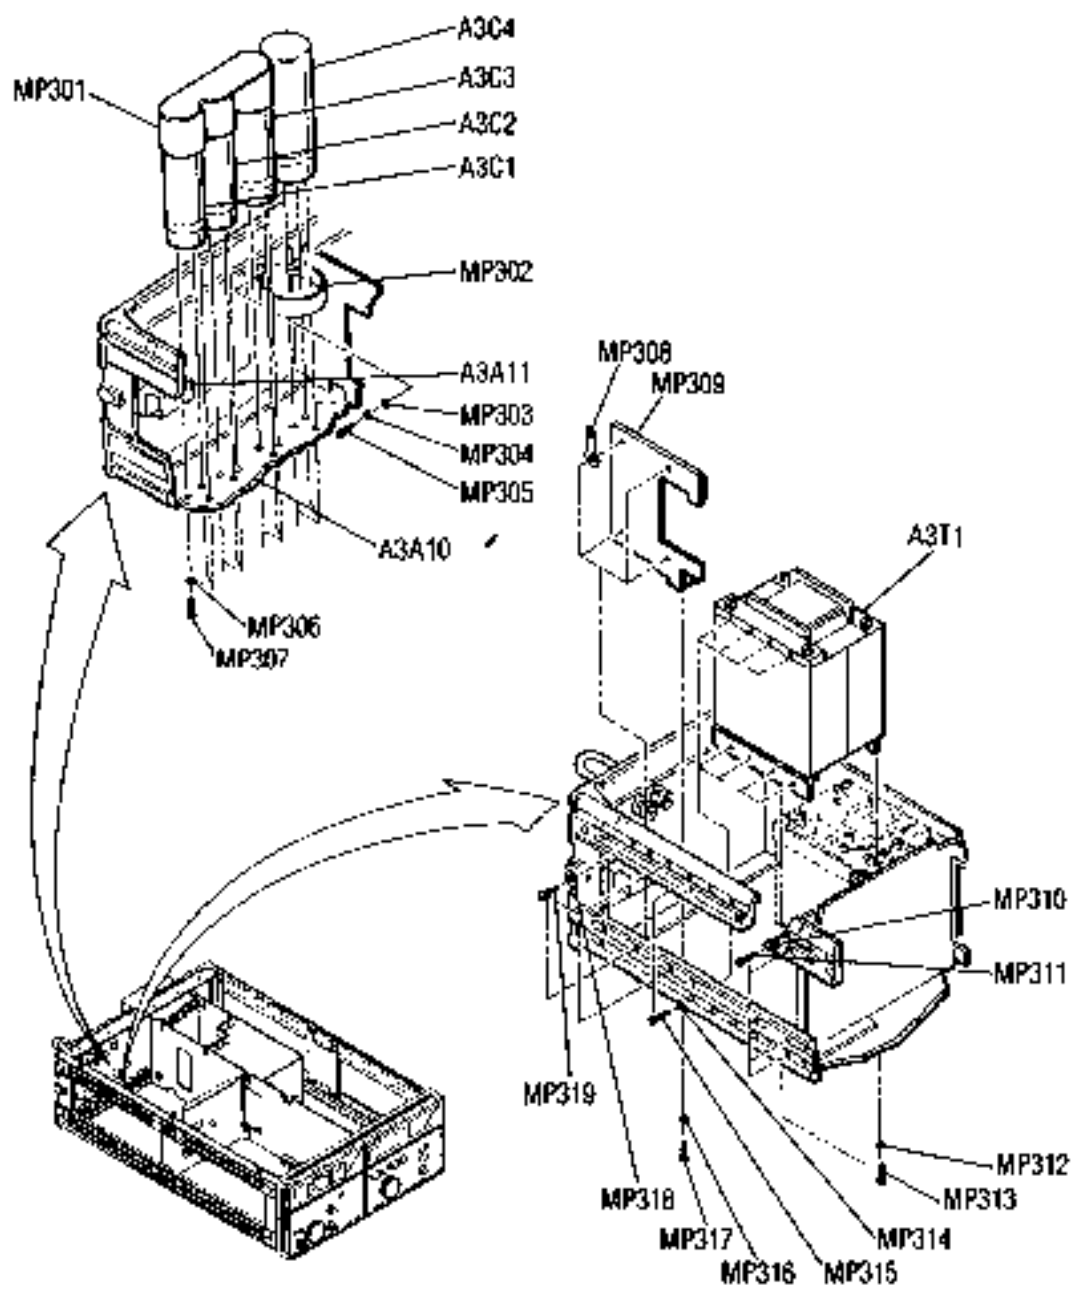

Figure 8-128. Transformer and Filter Capacitor Removal
6. Refer to Figure 8-128 for the following steps.
2. Refer to Figure 8-128 for the following steps.